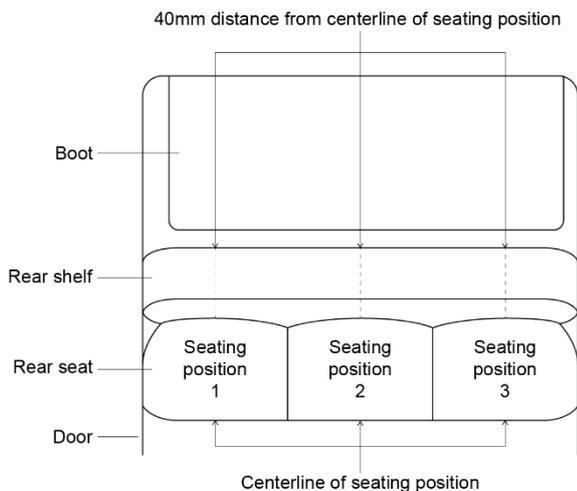

Figure 2: Anchorage positions
- located more than 50 mm from any existing hole in the metal and within 40 mm of the longitudinal centreline of the seating position (see Figure 2)